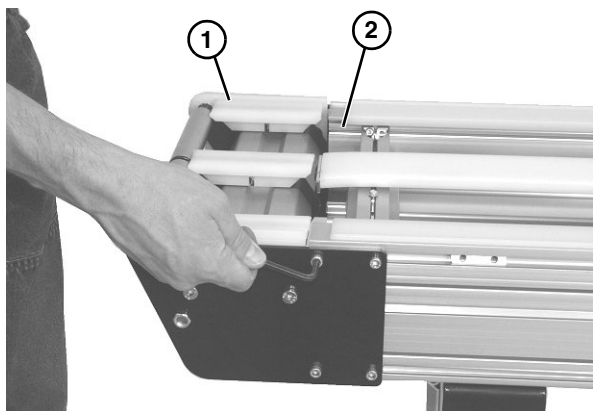

Figure 47
When reinstalling the idler spindle tail assembly, the idler terminal assembly (**Figure 47, item 1**) should mate flush with the conveyor frame (**Figure 47, item 2**).